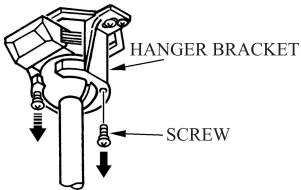

FIG.9
3. Remove one of screws and loosen the other screws from the hanger bracket. (see Fig.9)